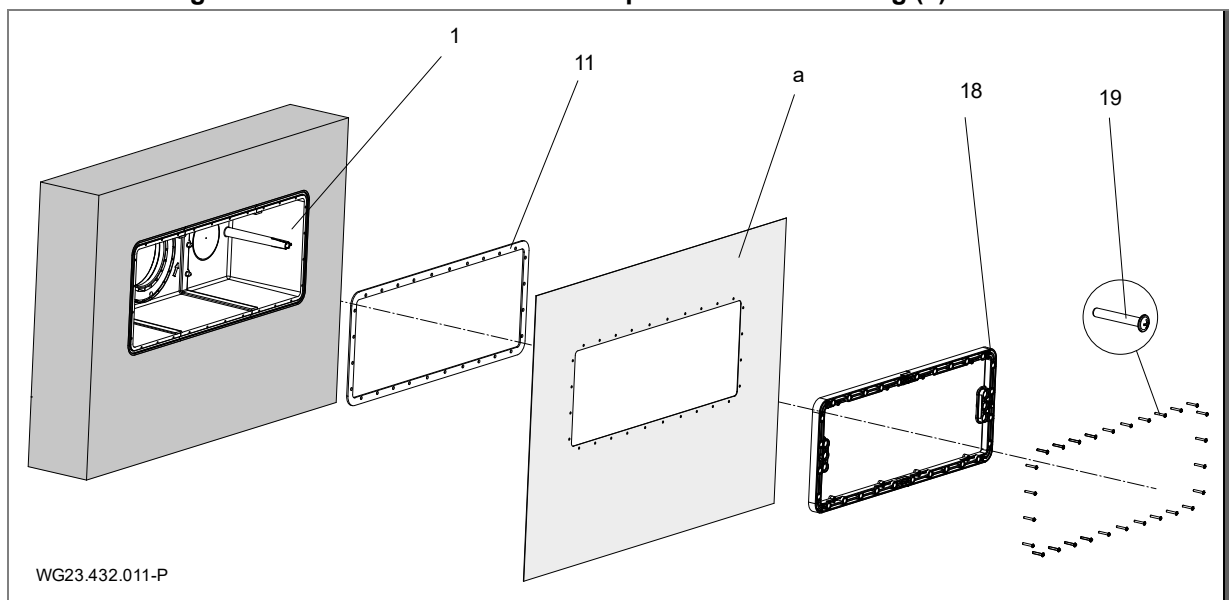

Fig. 7
It is recommended to lay a surrounding ring of epoxy resin/quartz sand at the pool-side outside wall of the housing (1) as a seal to the concrete wall. See "Fig. 7" on page 14.